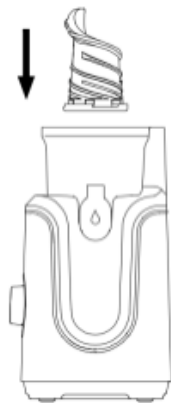

Fig2
- Push the auger firmly into the centre of the hopper, ensuring it reaches the bottom — if it does not, the cover will not close correctly. (Fig 2)